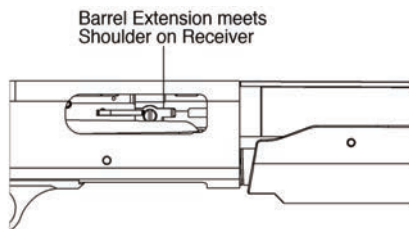

Fig. 6
**WARNING (All Models):** Check to be certain that the barrel is fully seated into the receiver by looking through the ejection port. The barrel extension must rest firmly against the corresponding cut in the top of the receiver (Fig. 6).